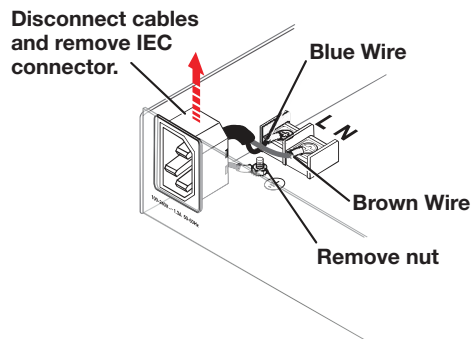

Figure 8. Removing the IEC Connector
3. Remove the two screws holding the blue hot (line) and the brown neutral wires from the terminal block on the PCB. Put the screws to the side to be used later (see figure 8).